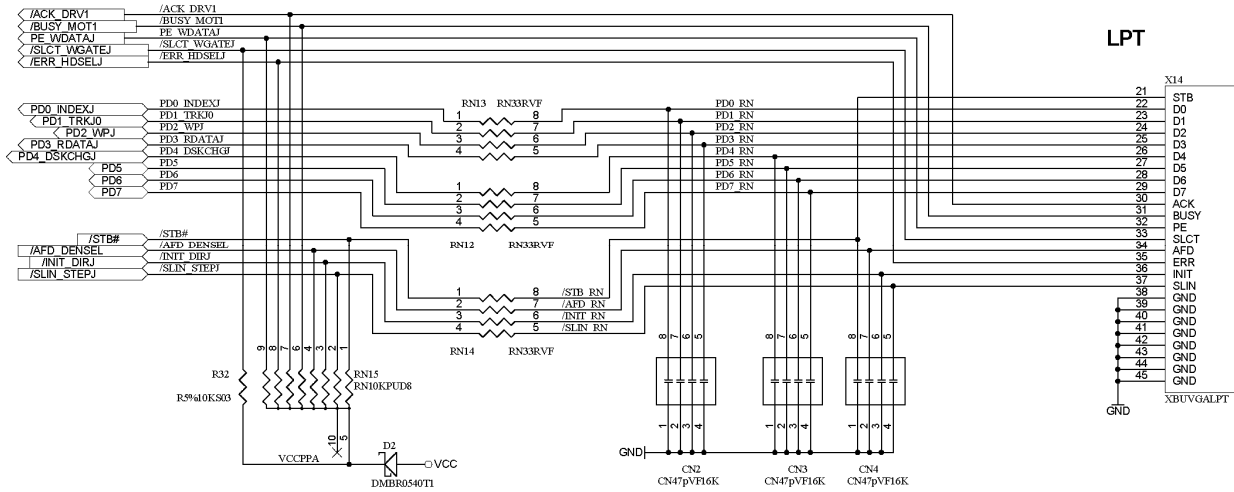

Figure 17 – Parallel Port Connector and Circuitry
Figure 17 shows typical parallel-port circuitry. The pin numbers shown outside the header outlines are for flat-ribbon cable headers. The pin numbers inside the header outlines are the actual pin numbers on the DB25 parallel-port connector.
- The primary port connector shown in Figure 17 is a standard 40-pin IDC flat-cable header, which is used with 3-1/2 inch desktop IDE hard drives. These drives require a separate power cable to provide them with 5- and 12-volt operating power.